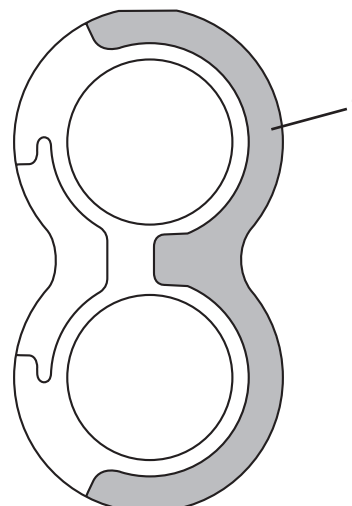

Figure 25
3. Place the thrust plates, with the high pressure trapping groove (Figure 25, Item 1) toward the outlet side of the pump, over the shaft end and port end cover bearings. Be sure the blue PTFE thrust plate seals are properly fitted in the seal grooves.